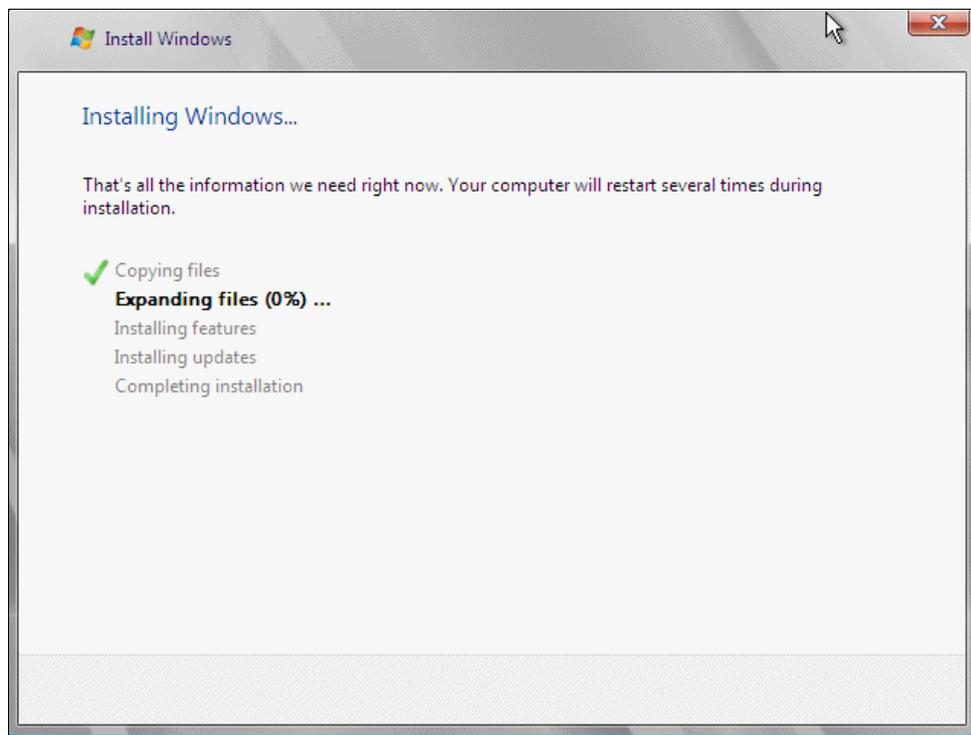

Figure 18-46 Installing Windows window
- Click **Next** again to leave the Windows creates the partition automatically window, or click **Drive options (advanced)** to create the partition. Then, click **Next** to start the installation process, as shown in Figure 18-46.